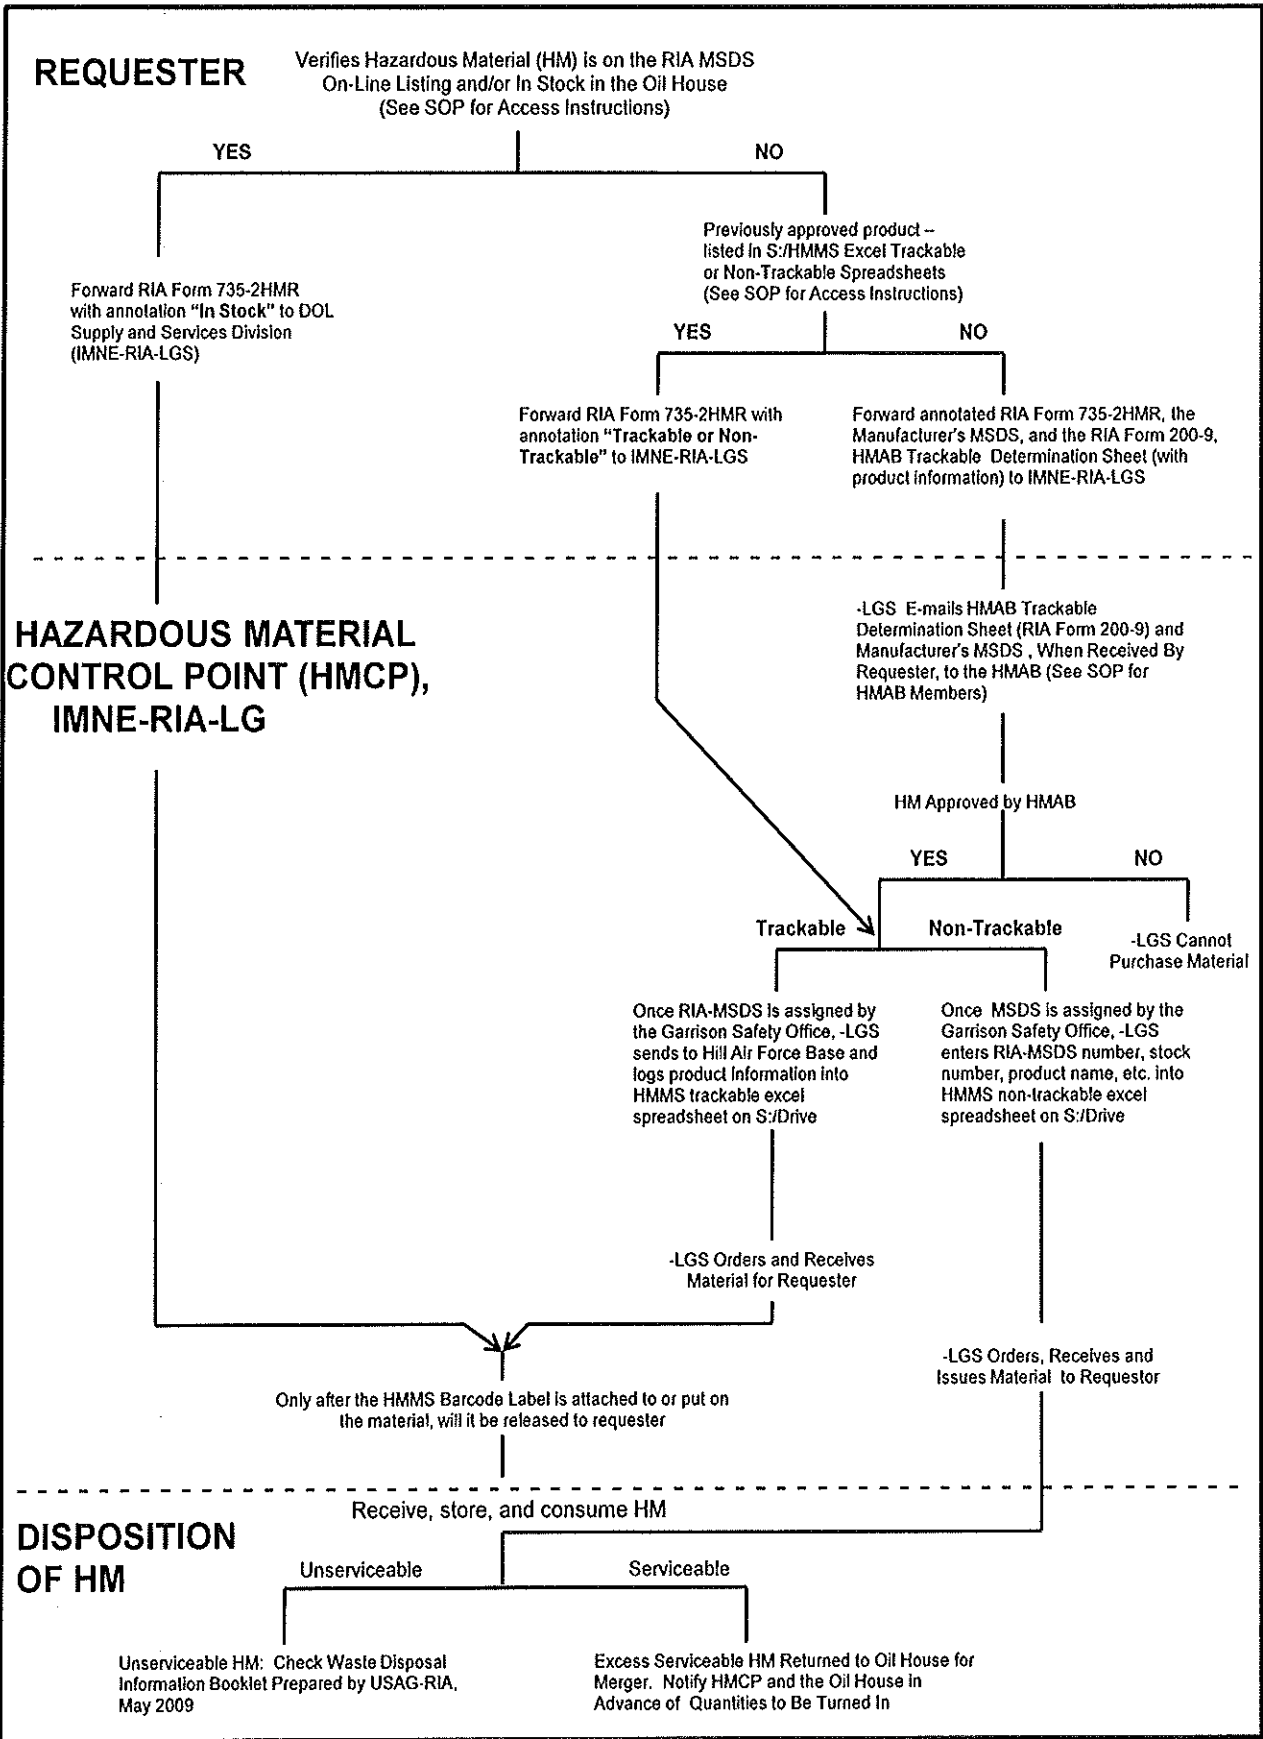

Figure 1 Illustrates the HM issue and return flow.
(1) Order only the amount of HM to support day-to-day operations for 1 month or for a job/protocol with specific material requirements per allotted storage limits. Utilize periodic reordering to minimize HM handling, storage and disposal impacts.
(2) Utilize Figure 1, HM Issue and Return Flow, shown in this SOP.
(3) Verify HM is on the RIA Material Data Safety Sheets (MSDS) on-line. To access the RIA MSDS listing go to: